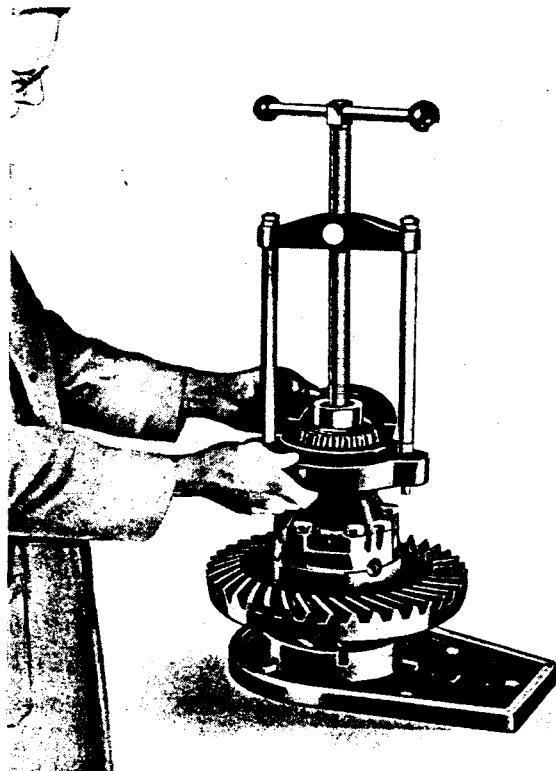

FIG. 13
- differential cases using Service Tool FT.4221 with split pressure plate Code 1, mounted on base plate FT9, supported on bench plate FT.10, as shown in Fig. 13.
2. Split casing after removal of eight set screws (24) which are locked together by continuous wire (25).
4. Removal of crown wheel (32) necessitates drilling through heads of twelve rivets (34) and breaking off with a cold chisel, then drilling shanks clear and tapping wheel off spigot on differential cage (33).